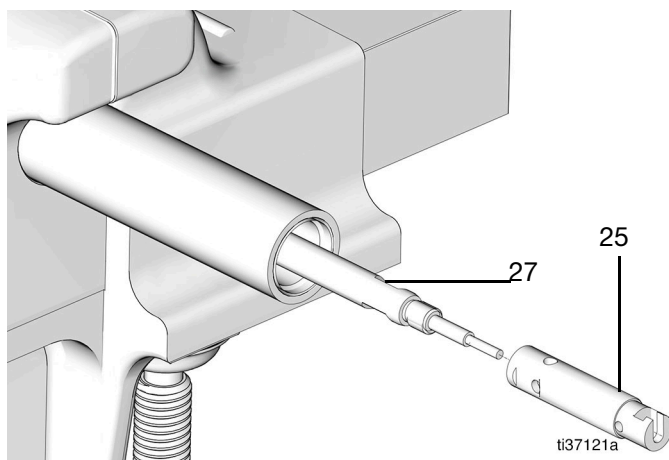
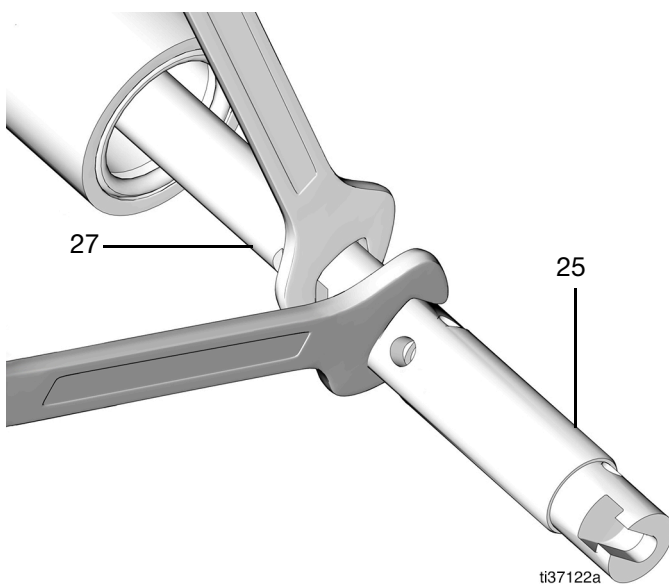

FIG. 57
FIG. 58
- Apply medium strength thread locking compound on the threads of the pump rod (27).
12. Place the pump piston (25) on the end of the pump rod (27) and tighten using wrenches (torque 10 ft-lb/13.6 N•m) (FIG. 57 and FIG. 58).